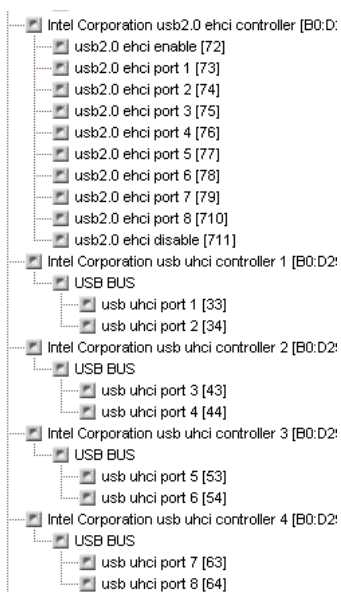

Fig. 6 – Possibly surplus USB tests in the Test Script window.
2. Removal of tests for devices that are not present on the board: the ATG assumes that the board is fully populated. For example, if one of the available RAM sockets will be empty when the board is tested, this test will need to be removed, otherwise the test will indicate that the RAM has failed. If the USB controller is capable of supporting 6 ports, but only 4 connectors have been implemented on the board, the 2 surplus tests need to be removed (fig. 6). Some of the IDE Primary and Secondary Master / Slave Tests are removed as follows:
- b. Select the test(s) to be removed in the Test Script window (fig. 6).